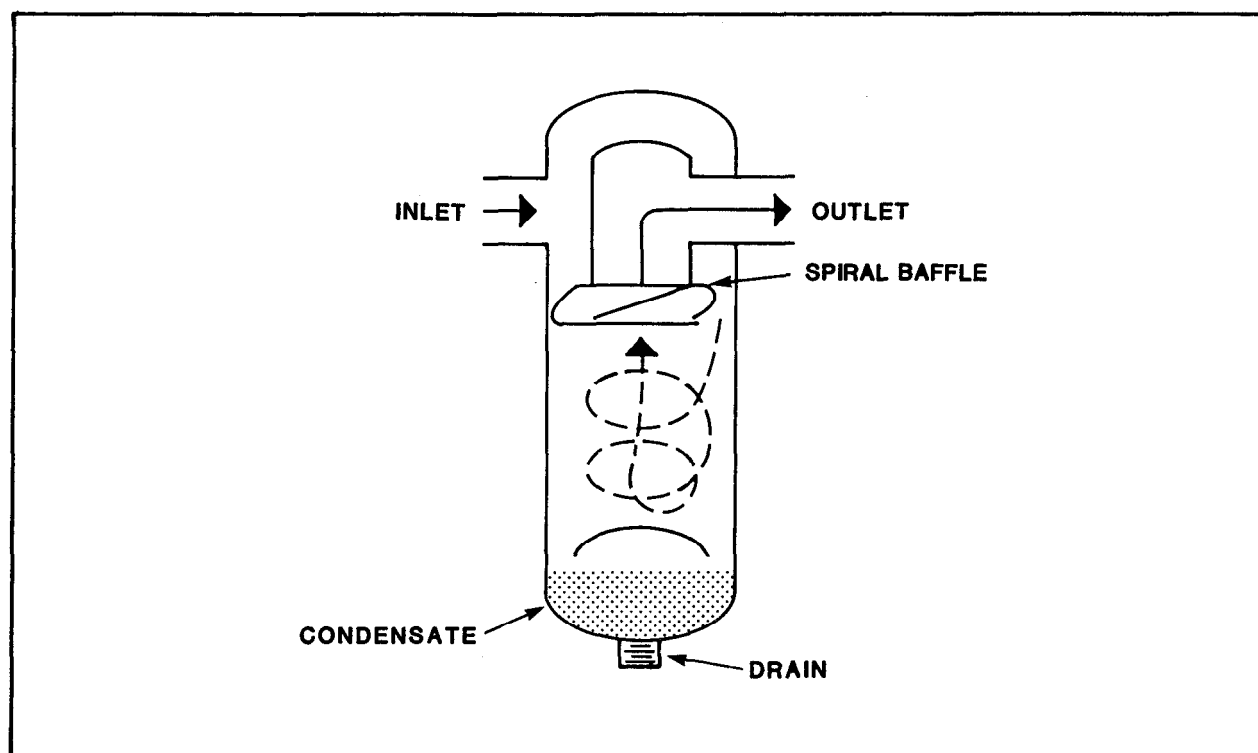
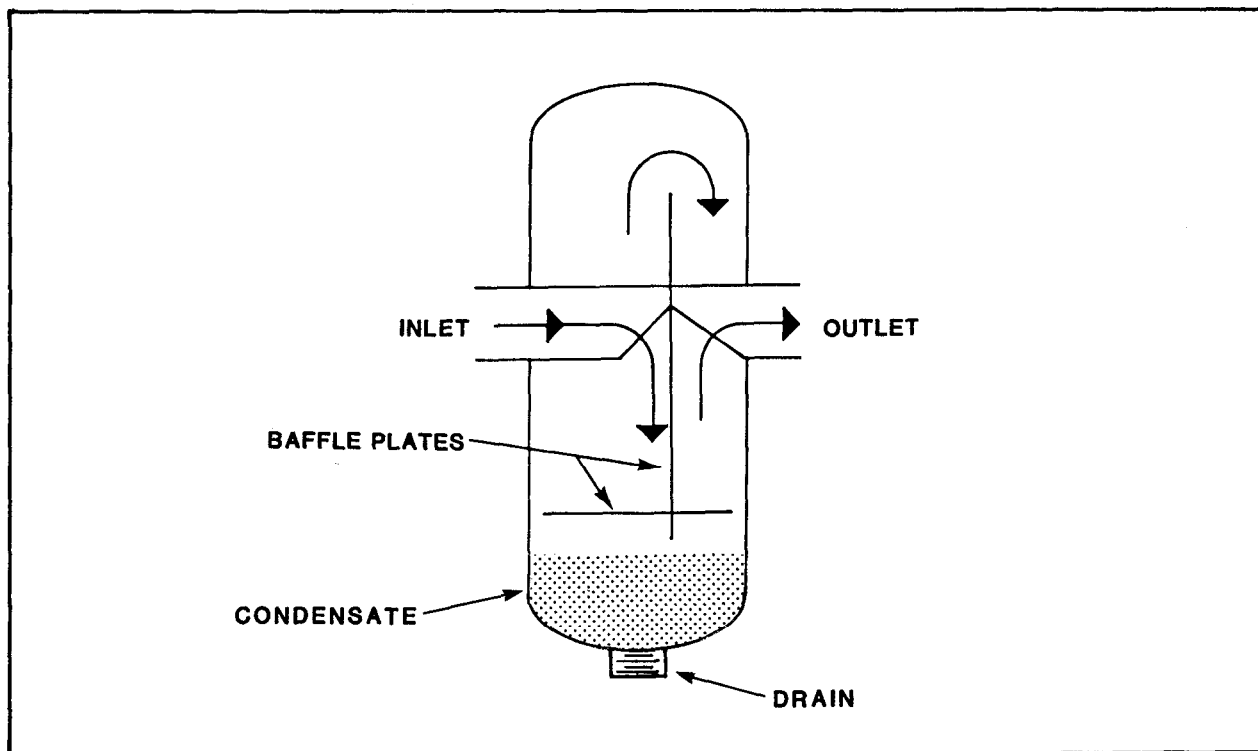

FIGURE 4-5. Centrifugal Type Separator
FIGURE 4-6. Baffle Type Separator
**1 DESCRIPTION.** Separators are used on compressor installations to remove entrained water and oil from the compressed air. Figure 4-5 shows a centrifugal type moisture separator where air is directed into the unit so that it obtains a swirling motion. Centrifugal action forces the moisture particles against the wall of the separator where they drain to the bottom. In the baffle type separator (figure 4-6) the air is subjected to a series of sudden changes in direction. The heavier moisture particles strike the baffles and walls of the separator and drain to the bottom of the unit.